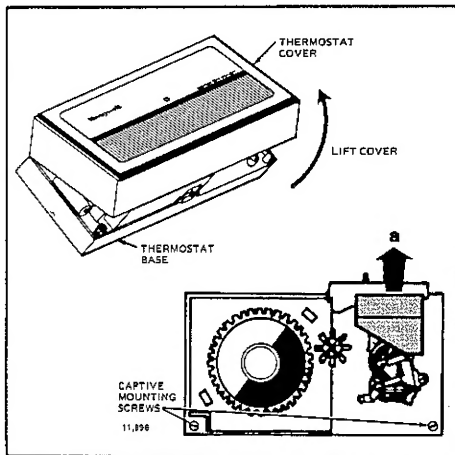

Fig. 1—Unpack thermostat.
- ☐ Handle new thermostat carefully; rough handling may interfere with its accuracy. Before unpacking, refer to Fig. 1.